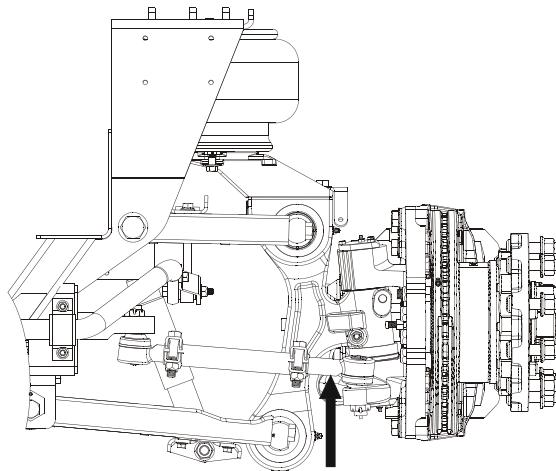

Figure 6 - Tie Rod
- 6. Check tie rod clamp orientation (**Figure 6**)
1. With the engine on, lightly rock the steering wheel and have an assistant observe any looseness in the two mating tapers or any movement of the stud nut at both ends of the tie rod. (**Figure 6**). If looseness is found in either place go to step 2, otherwise skip to step 3.
3. With the engine off and the wheels steered straight ahead, grab the tie rod near its end and try to move the socket in a direction parallel to the ball stud axis. (**Figure 6**). Be sure to only apply hand pressure to the tie rod.